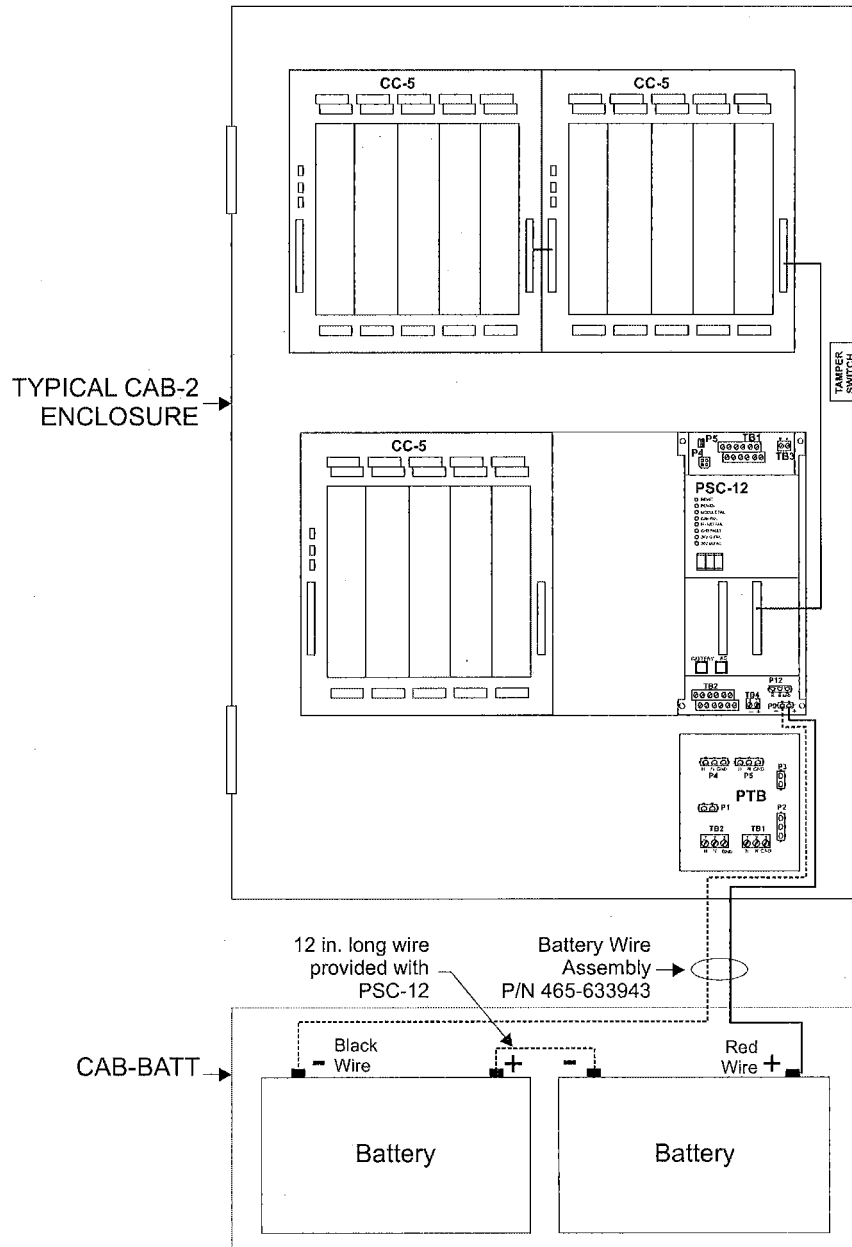
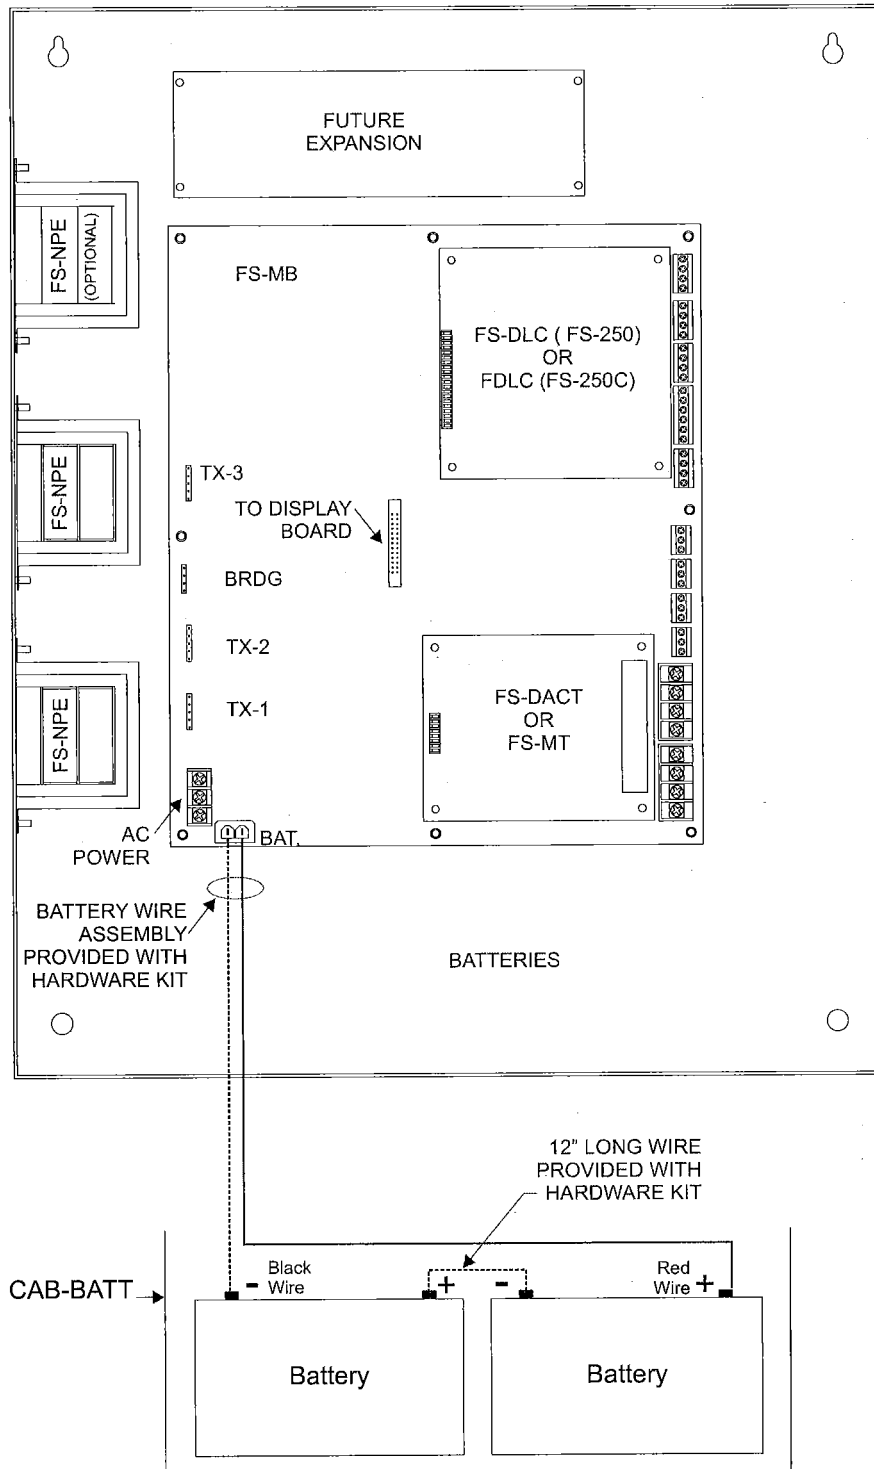

Figure 3
Figure 4
2. Connect the Battery Wire Assembly to the batteries in the CAB-BATT. If a longer wire is required, use a minimum of 12 AWG. For FireFinder-XLS, use P/N 465-633943, supplied with the PSC-12 (Refer to Figure 3 and the PSC-12 Installation Instructions, P/N 315-033060.) For FS-250 or FS-250C, use the Battery Cable Assembly supplied with the FS-250 / FS-250C hardware kit (Refer to Figure 4.)